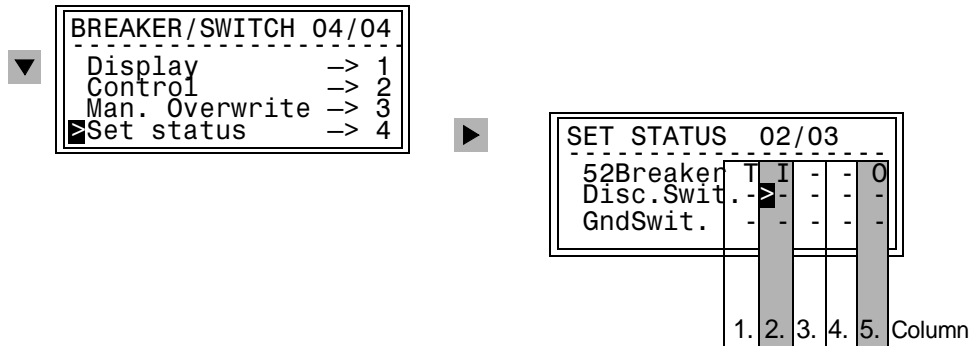

Figure 7-48 Set Status at the Front Panel (example)
Select the item **Set Status** with the **▼** key and switch to the next option using the **►** key. **SET STATUS** appears, as shown in Figure 7-48.
The example in Figure 7-48 shows the position for the circuit breaker (52) was tagged (T) after the input ignore (I) was set, which means the message input was de-coupled from the system. The output block is active (O), so the command output is also de-coupled from the system. For the disconnect switch and the ground switch, no limitations are set.